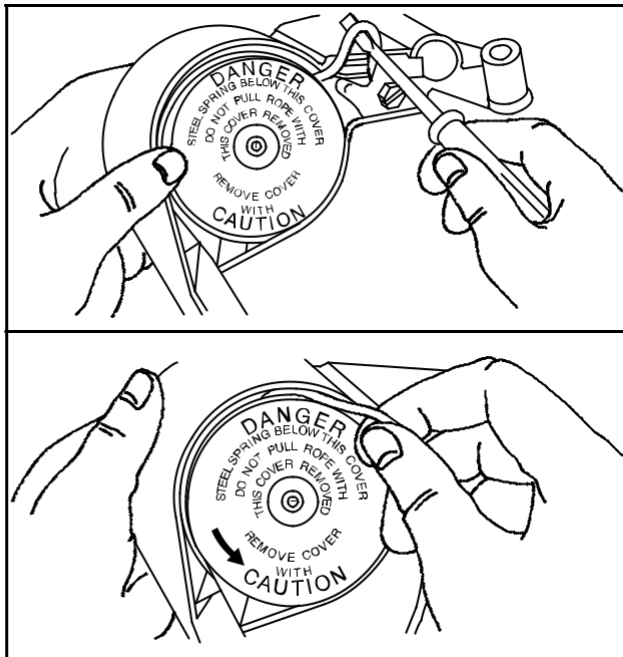

Fig. 617 – PROVIDING SLACK
3. Wind rope and pulley counterclockwise 4 turns, as shown in Fig. 617. This will completely release tension from the starter spring.